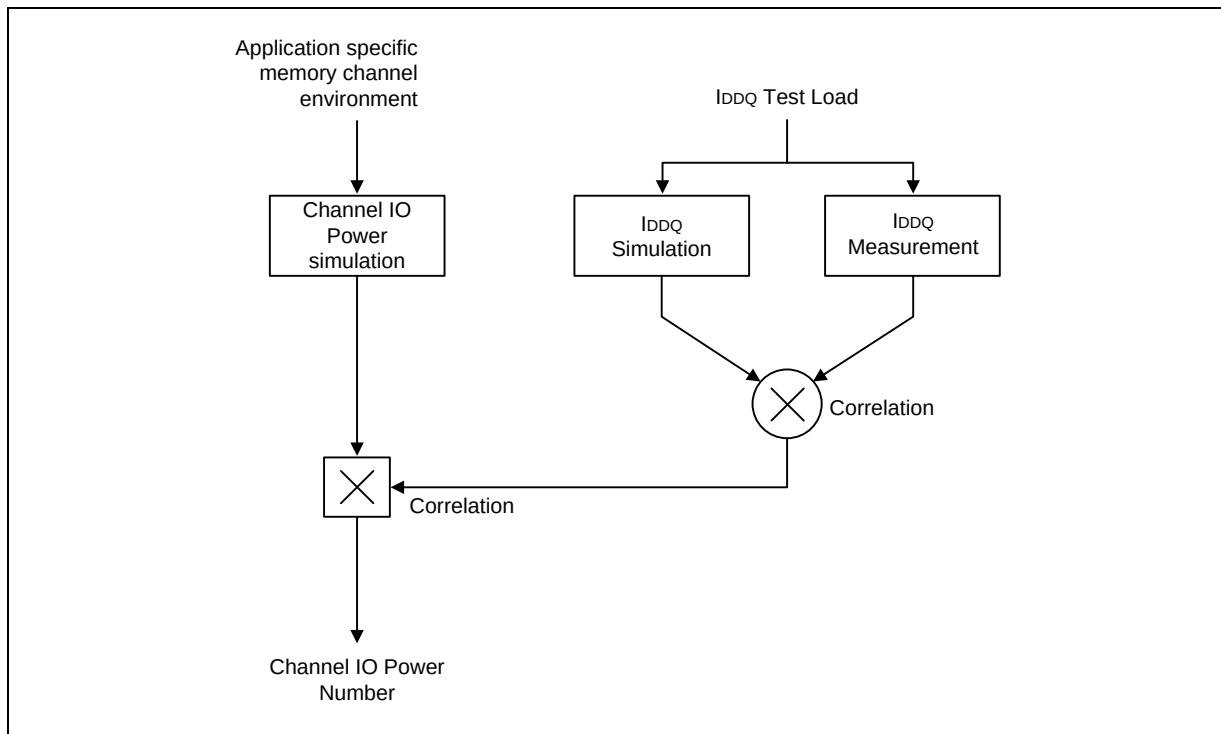

Figure 106 – Correlation from simulated Channel IO Power to actual Channel IO Power supported by I_{DDQ} Measurement
- Attention: IDDQ values cannot be directly used to calculate IO power of the DDR3L SDRAM. They can be used to support correlation of simulated IO power to actual IO power as outlined in Figure 106. In DRAM module application, IDDQ cannot be measured separately since VDD and VDDQ are using one merged-power layer in Module PCB.**